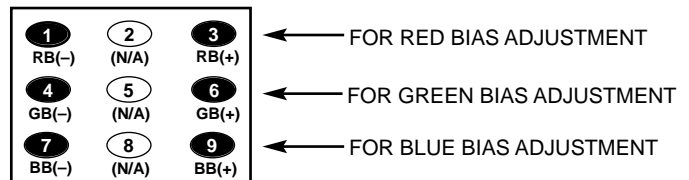

Figure 4. Remote Control Number keys' function in Service Menu No. 073
10. Raise each Bias Level with 3, 6, and 9 keys to obtain just visible white line. (See Figure 4 below.)